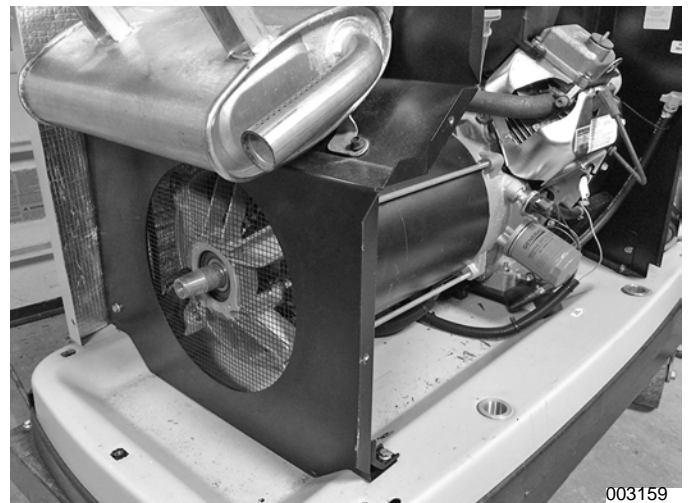

Figure 5-57.
16. **Remove Alternator Divider Panel:** See Figure 5-57. Depending on the unit, use a 10 mm socket or 4 mm Allen wrench to remove two bottom base bolts.